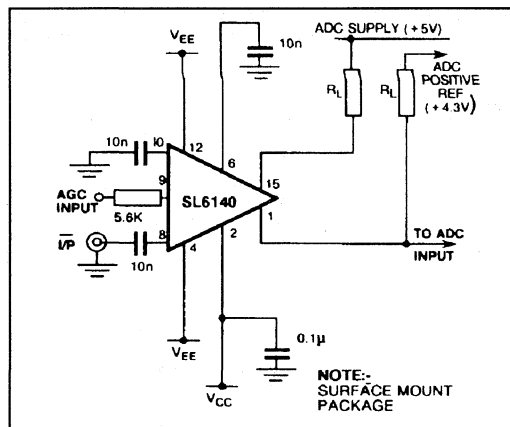

Fig.4
**SP973T8 OUTPUT DATA** (see SP973T8 datasheet Fig. 4 for typical test load)